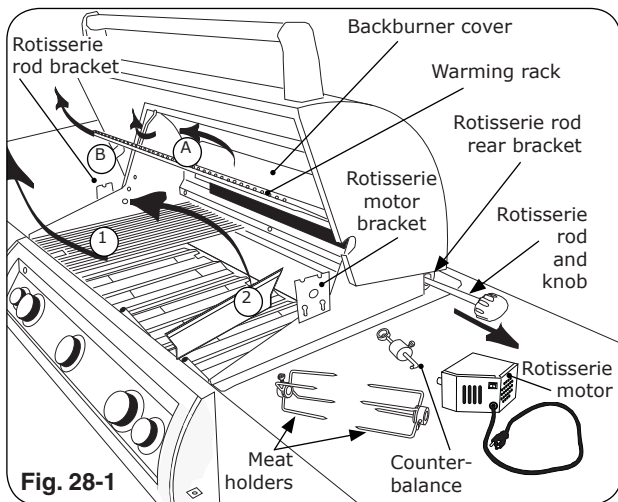

Fig. 28-1
2. Slide rotisserie motor fully onto motor bracket (right side, Fig. 28-1 and 28-2).
3. Remove rotisserie rod from rear bracket (Fig. 28-1) and attach knob if necessary.